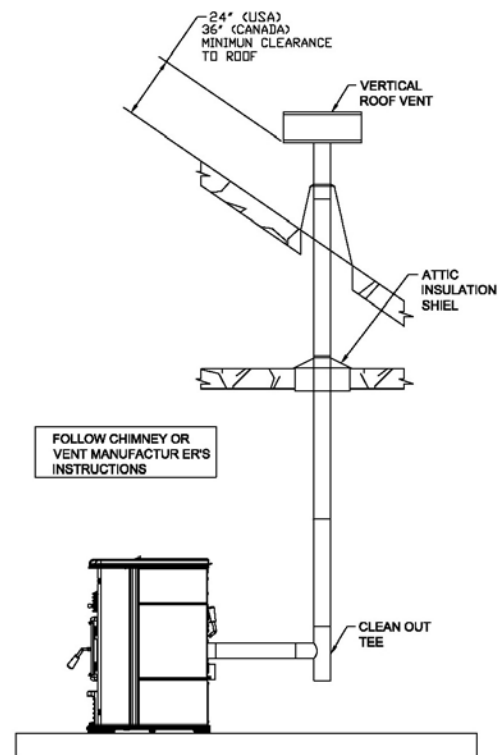

Figure 16
B. VERTICALLY WITH NEW CHIMNEY SYSTEM (REFER TO FIGURE 16- VENTING THROUGH ROOF)